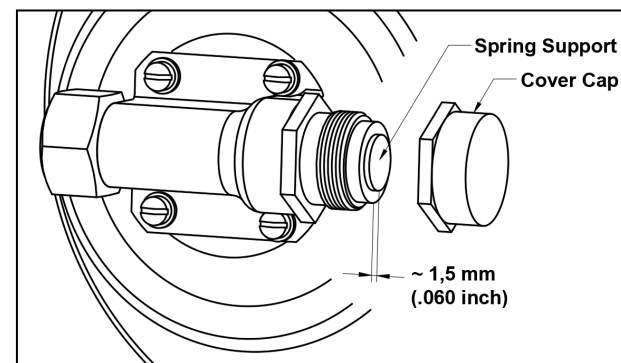

FIGURE 6-1
- (1) Remove the spinner dome.
(2) Remove the cover cap from overspeed governor. The spring support must protrude from the governor about 1,5 mm (.060 inch). Otherwise push and release the spring support a several times. See Figure 6-1.
(7) Screw the cover cap by hand on overspeed governor until stop (figure 6-1). Then use a wrench to additionally tighten the cover cap about 5 degrees.
(8) Safety the cover cap with 0,81 mm (.032 inch) stainless steel wire.